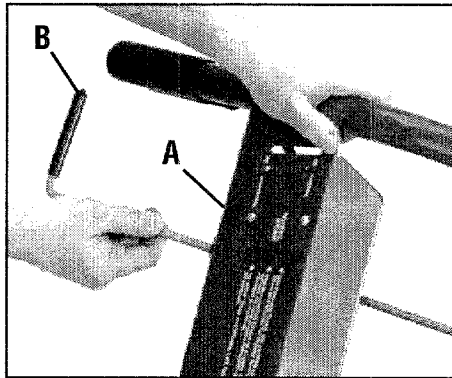

Figure 2-2: Remove Maneuvering Clutch Lever.
1. Remove the Maneuvering Clutch Lever (B, Figure 2-2) from the handlebars (A). Remove any rubber bands from the handlebars.